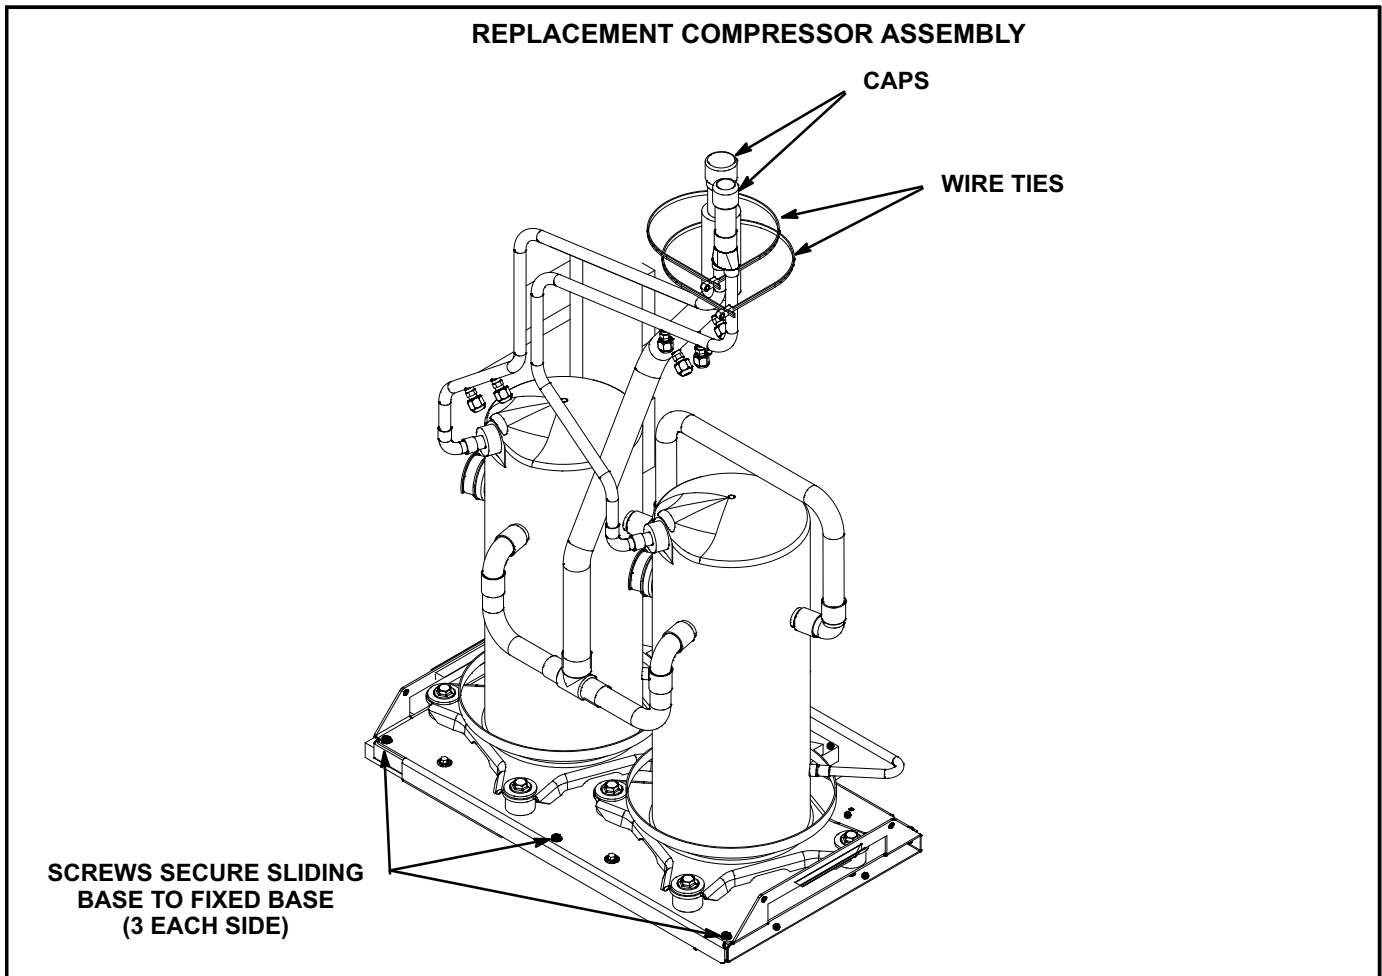

FIGURE 5
- 1- Remove screws securing replacement compressor sliding base to fixed base and move replacement compressor out of crate. See figure 5.